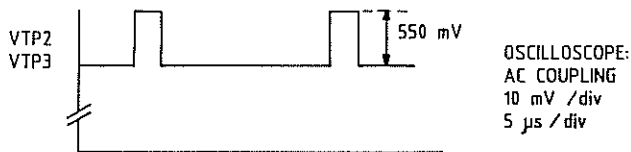

Fig. 2 Calibration - Pedestal voltage
(4) CALIBRATION- AND PEDESTAL VOLTAGE SETTING
- Adjust with potentiometer R63 on Video amplifier board the calibration voltage to $550 \text{ mV} \pm 25 \text{ mV}$, see figure 2 below.
- Adjust with potentiometer R21 on Video amplifier board the pedestal voltage to $550 \text{ mV} \pm 25 \text{ mV}$, see figure 2 above.
- Set jumper WN19:W4(W1) of XTV5-(H)FB to mains lock, pos. 1-2.